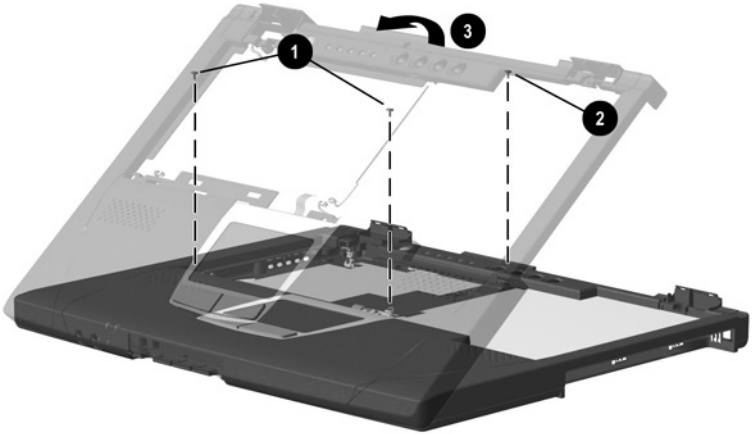

Figure 5-10. Removing the Top Cover
7. Remove the two pewter M2.5 × 7.0 screws ❶ and the black M2.5 × 4.5 screw ❷ that secure the top cover to the base enclosure (Figure 5-10).
8. Lift the back edge of the top cover ❸ and swing it up and forward.